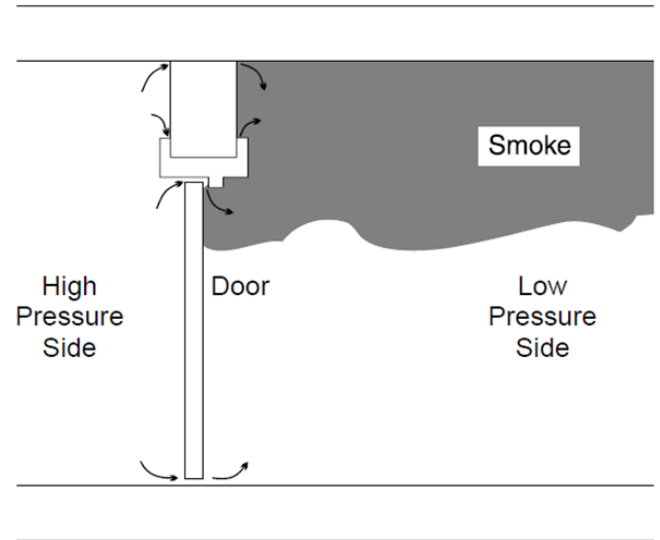

Figure 2.4 Pressurization
- Pressurization is employed by creating pressure differences across partitions that separate the smoke zone from other areas. This can be accomplished by making pressure in the area surrounding the smoke zone higher than pressure in the smoke zone itself (refer to Figure 2.4). Airflow through construction and door cracks prevents the movement of smoke to the high-pressure side. The pressure difference must be sufficient to contain the smoke in the smoke zone and at the same time allow doors leading to exit routes to be opened.